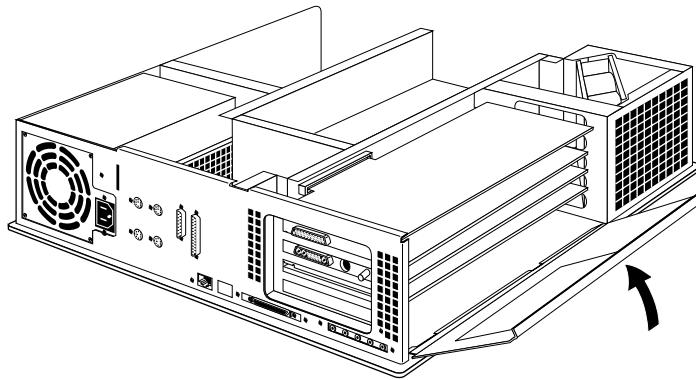

Figure 3-12 Closing the metal panel in front of the slots
4. Tip the metal panel in front of the slots up until it snaps into place, as shown in Figure 3-12.